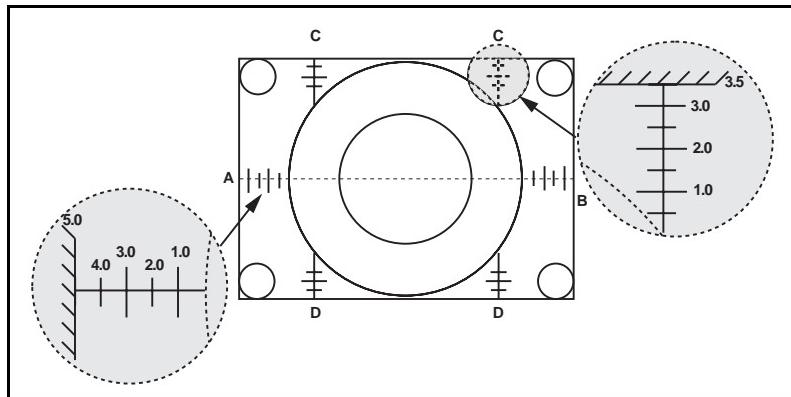

Figure 47. H & V size check
2. Confirm that horizontal size is 5 ± 0.2 lines at "A" and "B" and that vertical size is 3.5 ± 0.1 lines at "C" and "D" as indicated in Figure 47..